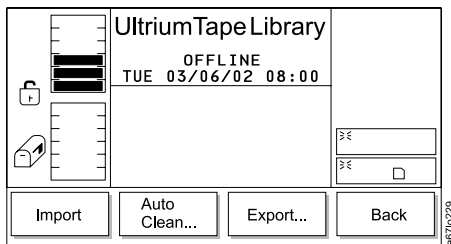

Figure 157. I/O Station Submenu
2. Press the button below the **I/O Station** softkey. The I/O Station Submenu displays (see Figure 157).